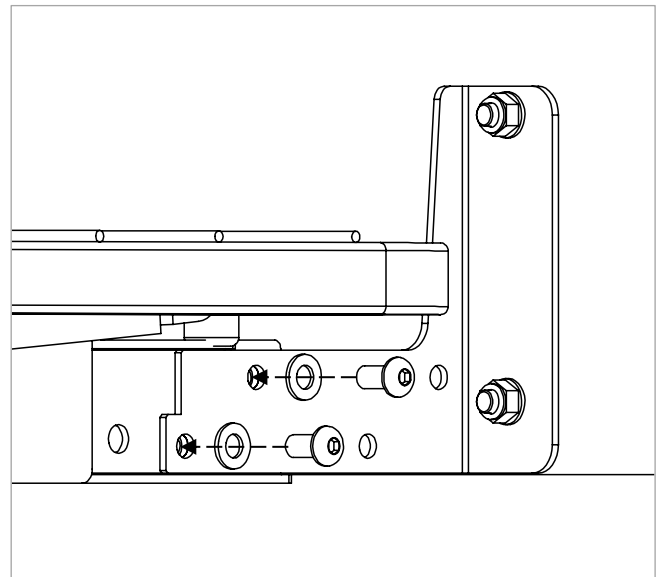

Figure 12.4
3. Secure the head/foot board with the bolts and washers in the extended position as shown in Figure 12.4.